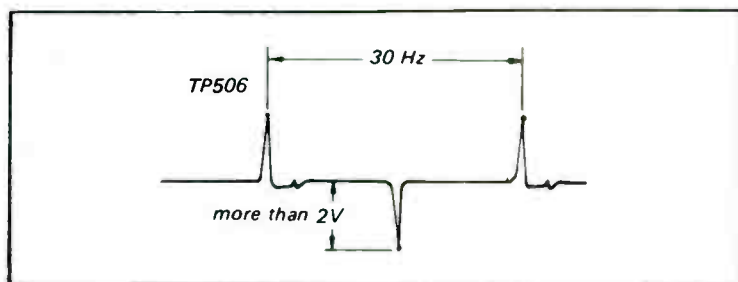

Fig. 4-15. Correct playback CTL signal.
- 4—Connect the scope to TP506 and confirm that the CTL signal shown in Fig. 4-15 is obtained.